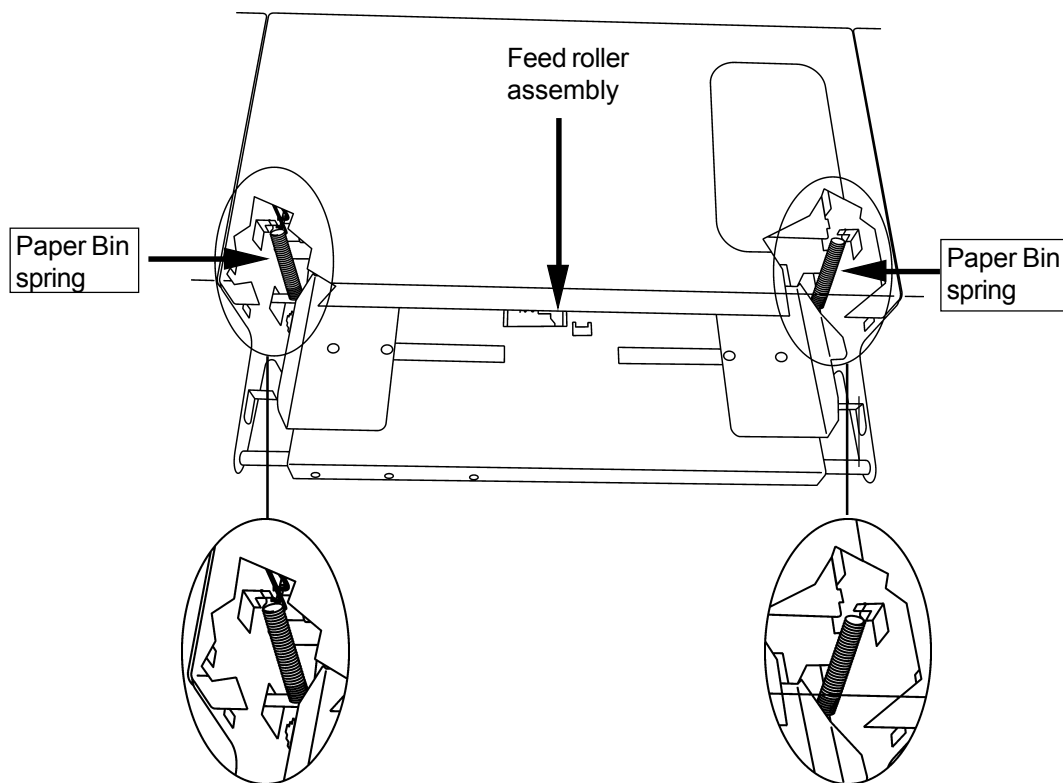

Figure 9, view of Feed roller assembly
20. Install the Feed roller assembly. Figure 9.
21. Connect the two paper bin springs, according to figure 9.